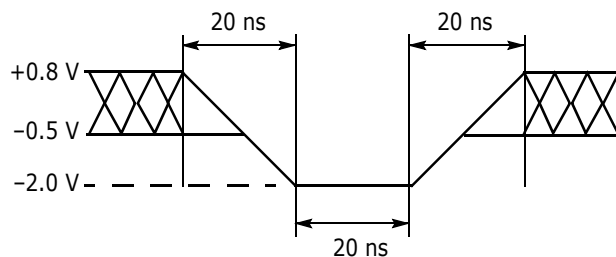
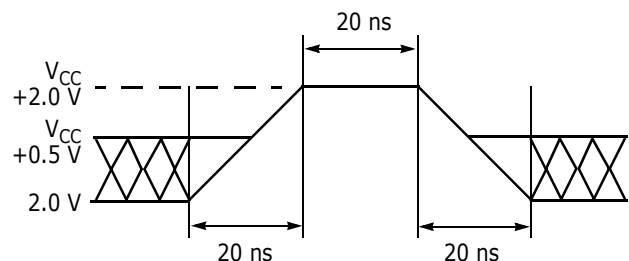

Figure 7. Maximum Negative Overshoot Waveform
Figure 8. Maximum Positive Overshoot Waveform
1. Minimum DC voltage on input or I/Os is -0.5 V. During voltage transitions, inputs or I/Os may overshoot V_{SS} to -2.0 V for periods of up to 20 ns. See Figure 7. Maximum DC voltage on input or I/Os is $V_{CC} + 0.5 V$. During voltage transitions, input or I/O pins may overshoot to $V_{CC} + 2.0 V$ for periods up to 20 ns. See Figure 8.
2. Minimum DC input voltage on pins A9, OE#, and ACC is -0.5 V. During voltage transitions, A9, OE#, and ACC may overshoot V_{SS} to -2.0 V for periods of up to 20 ns. See Figure 7. Maximum DC input voltage on pin A9, OE#, and ACC is +12.5 V which may overshoot to +14.0V for periods up to 20 ns.